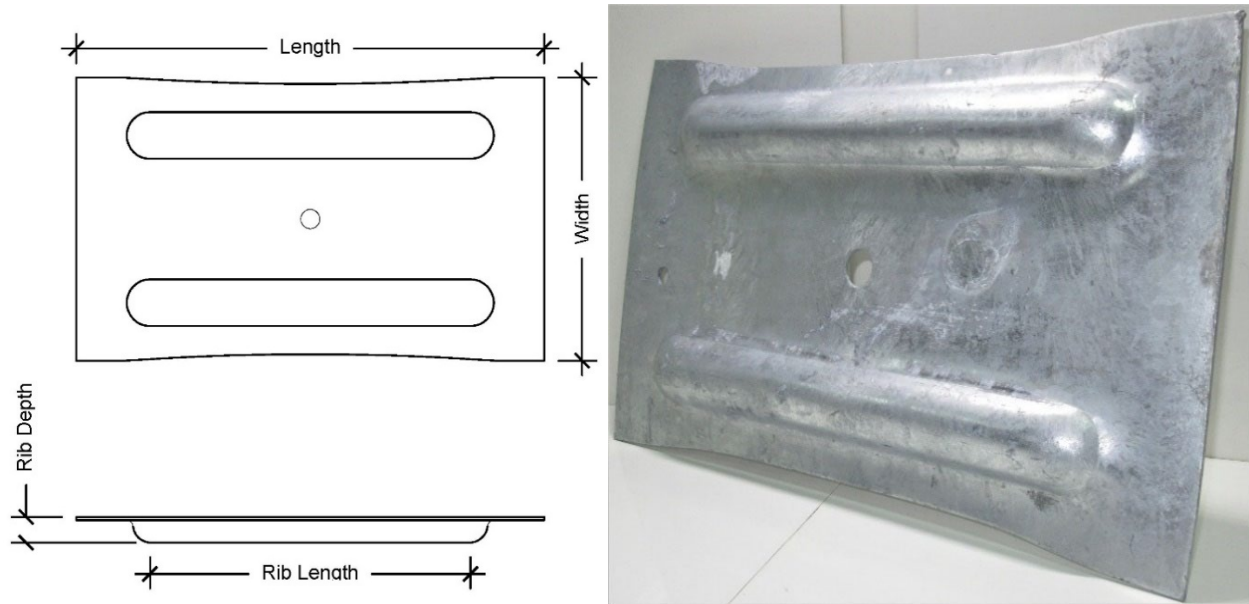

FIGURE 3—INTERIOR WALL PLATE
3.2 Interior Wall Plate: The interior wall plate is part of an assembly that is 18-¼ -inches (46.36 cm) x 11-inches (27.94 cm) or 28-inches (71.12 cm) x 12-½ -inches (31.75 cm) formed steel plate. See Table 1 for more specifications. The maximum distance that the wall plate can span is 8-inches (20.32 cm). The interior wall plate is hot-dipped galvanized in accordance with ASTM A123M and as illustrated in Figure 3.